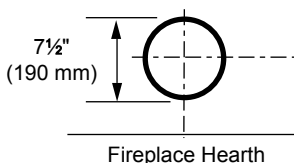

Figure 15 - Locate Vent Opening on Wall
1. Locate and cut the vent opening in the wall. For combustible walls first frame in opening. *Figure 15*
Combustible Walls: Cut a 11½"H x 9½" W (292 x 241 mm) hole through the exterior wall and frame as shown. *Figure 15*
3. Attach vent pipe assembly to the fireplace. Set fireplace in front of its permanent location to insure minimum clearances. Mark the wall for a 11½"H x 9½"W (292 x 241 mm) rectangle hole (for noncombustible material such as masonry block or concrete, a 7½" [190 mm] diameter hole is acceptable). *Figure 15*. The center of the hole should line up with the center line of the horizontal rigid vent pipe end. Be sure to allow for minimum rise. Cut a 11½" x 9½" (292 X 241 mm) rectangle hole through combustible exterior wall (7½" [190 mm] diameter hole if noncombustible). Frame as necessary. Allow ¼" minimum rise per foot. *Figure 15*
1. Establish vent hole through the wall. *Page 17, Figure 15*